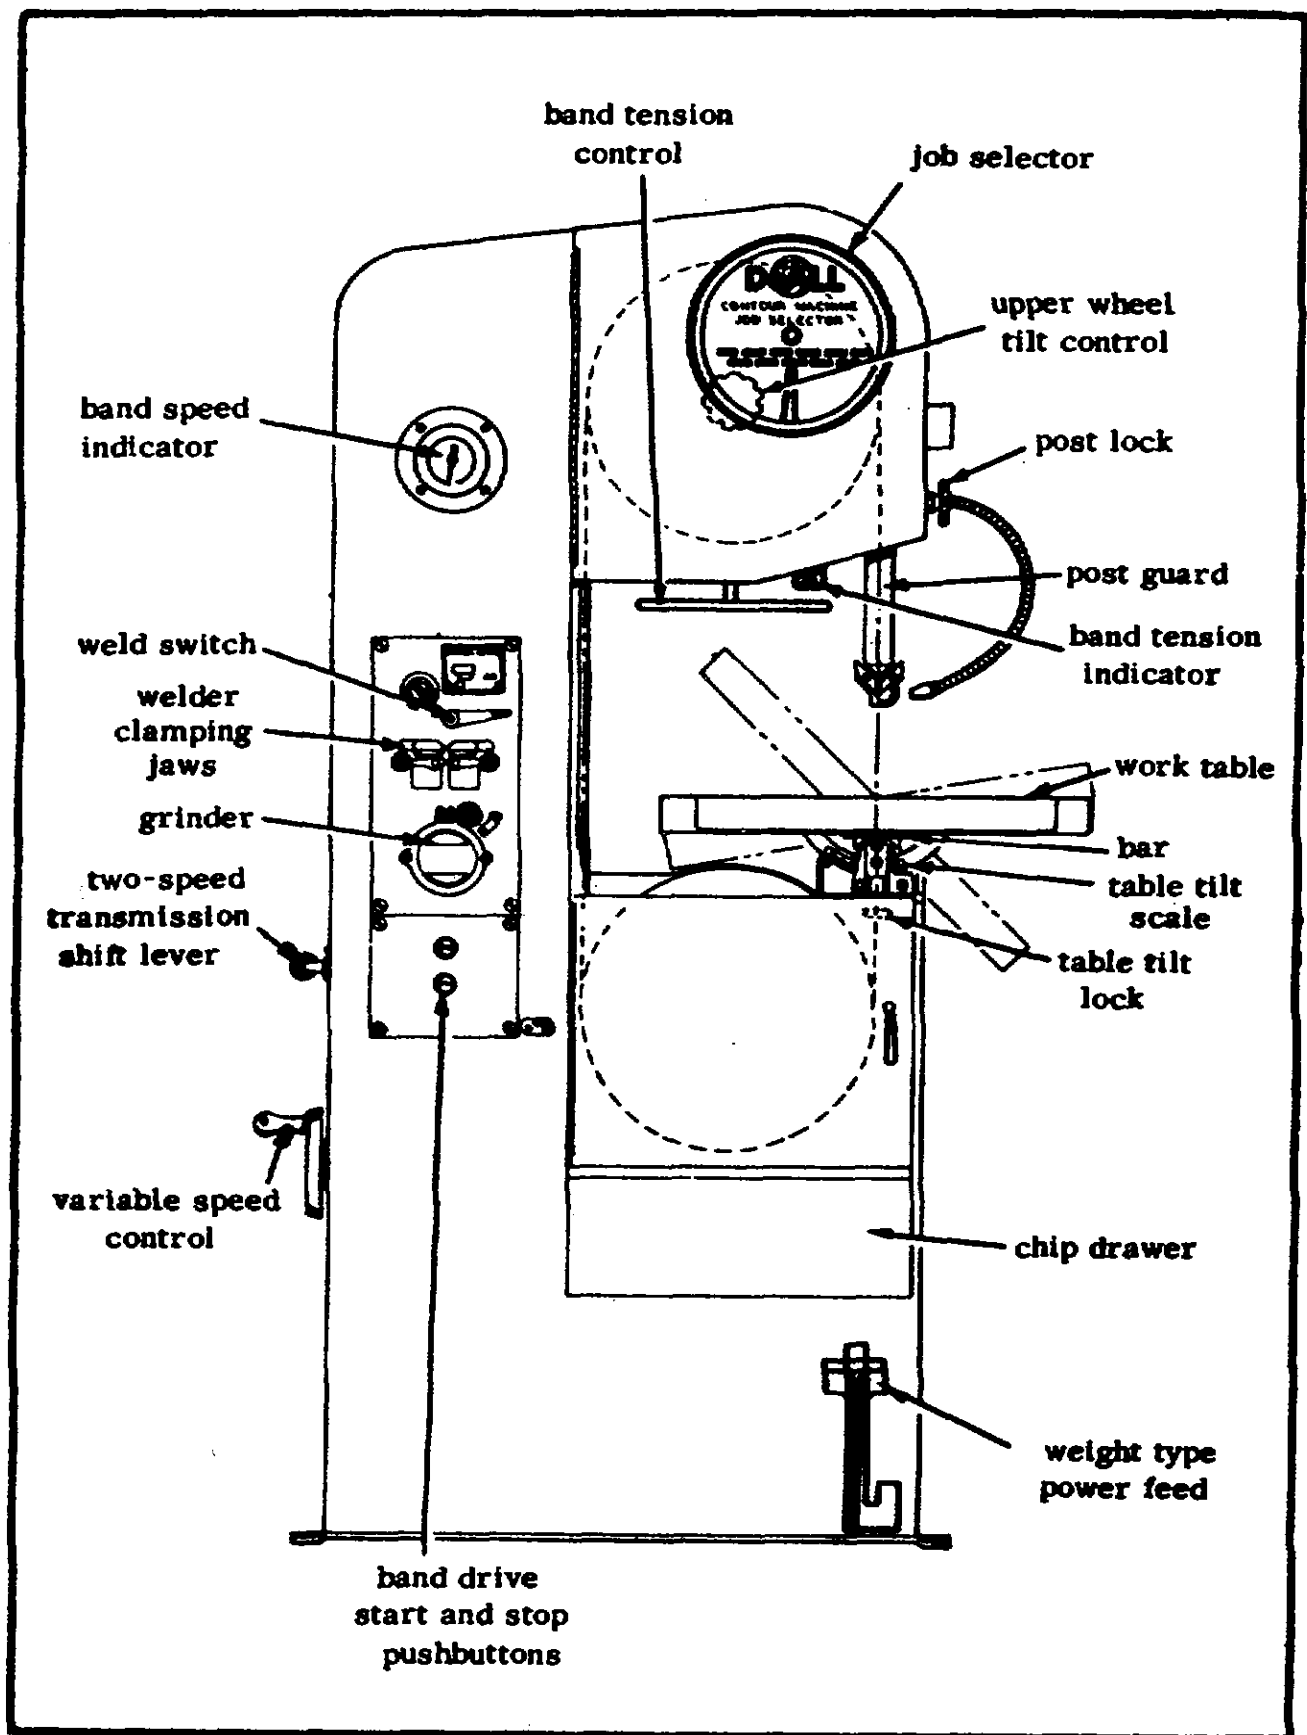

Fig. 11 - Showing location of all operation and alignment controls.
(3) Remove the bar which crosses the saw slot (fig. 11) just below the front edge of the table.
(4) Using gloves to handle the band, place it carefully over the wheels and between the saw guide inserts (or rollers, if used) so that the band is centered on the crown face of the wheels.
(5) Replace the band guard. Replace the bar over the table slot. Close the wheel doors.
(6) Next, tension the band and check the tracking adjustment as described in the following sections.
Band tension is applied by turning the (tension) handle (fig. 11) located below the saw head. Tighten the band to the proper tension indicated on the band tension scale mounted next to the control. The figures on this scale are recommended tensions and are based on the most common gages and pitches used. When using bands with coarser pitch or lighter gage, reduce tension. Increase the tension when using heavier bands. Note that Dart saw band requires more tension than Standard Carbon.
With the gear shift control(fig. 11) the operator can select either one of two transmission speed ranges.
Each speed range can be infinitely varied by the speed change control (fig. 11)which changes the position of the variable pulley. Band speed is shown on the speed